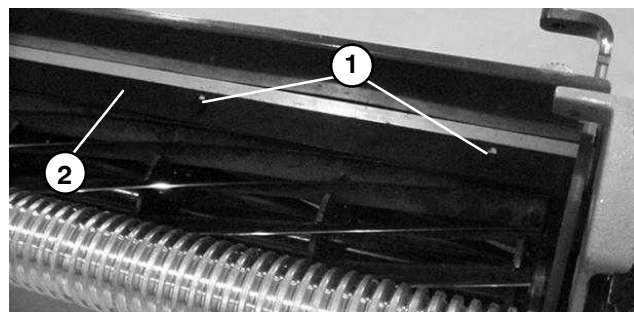

Figure 20
2. Loosen screws securing the cut-off bar to the cutting unit (Fig. 20). Adjust cut-off bar to allow a .060 inch (1.5 mm) feeler gauge to be inserted between the top of the reel and the bar. Use thicker or thinner feeler gauge based on turf conditions.